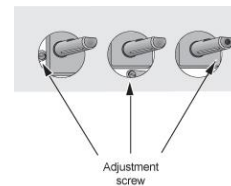

Figure 8
---The adjustment screw may be located at the centre of the gas tap control shaft or on the gas tap body, left of the control shaft or below (see figure 8\*).